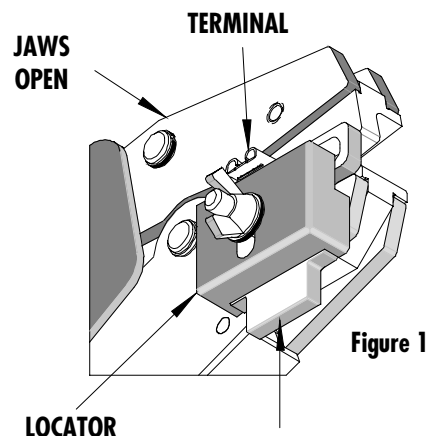

Figure 1
2. Push the locator blade and insert the terminal in the proper nest with the barrel up and against the locator blade. Release the locator blade to hold the terminal in position. See Figure 1.
Push the locator blade to remove the crimp and inspect for proper crimp location. Locator is adjustable up and down to keep terminals straight after crimping (See Figure 1). Molex offers a Crimp Inspection Handbook for closed barrel industrial product. See our website or contact your sales engineer.